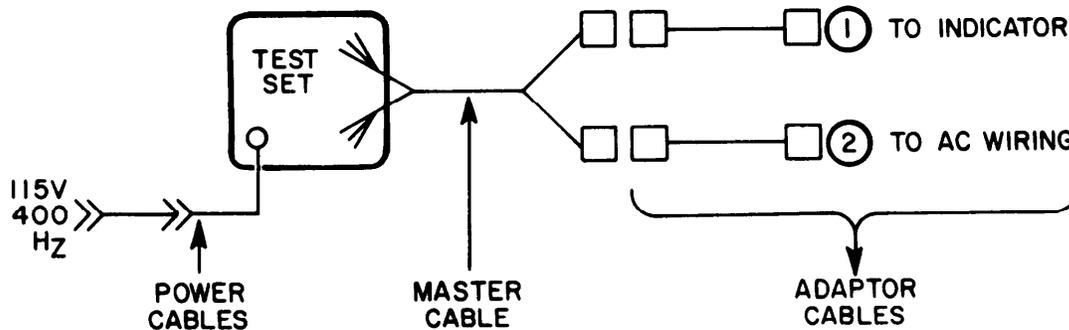

Figure 2-1. Typical cable connection block diagram
m. Attach the proper Adaptor Cable Assembly to the Master Cable per the following Table 2-1 and Figure 2-1.